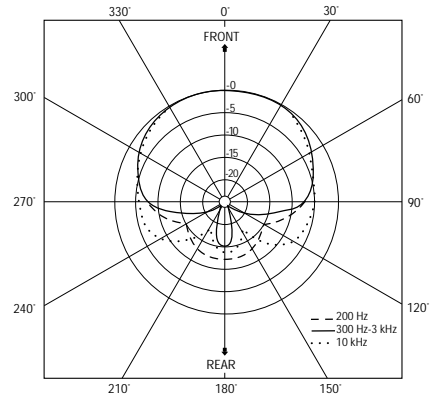

Fig. 3
**Dimensions:** Mount 3" diameter, boom approximately 7"x3". See Figs. 3 and 4.